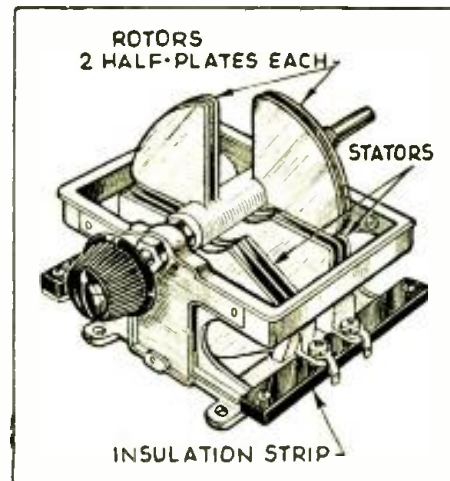

Fig. 3. Antenna switch works by capacity variation.
**S.P.D.T. "CAPACITY SWITCH."** I have made what I call a "capacity switch" for use in switching, noiselessly, from one antenna to another, or switching the antenna from one stage to another, as ordinary contact switches were unsatisfactory. It also has several other uses. The only part needed to make it is an old tuning condenser with a stator block that can be split, such as the Zenith, Cardwell, etc. The stator is split as shown in Fig. 3. The rotor plates are then cut with a hacksaw, and